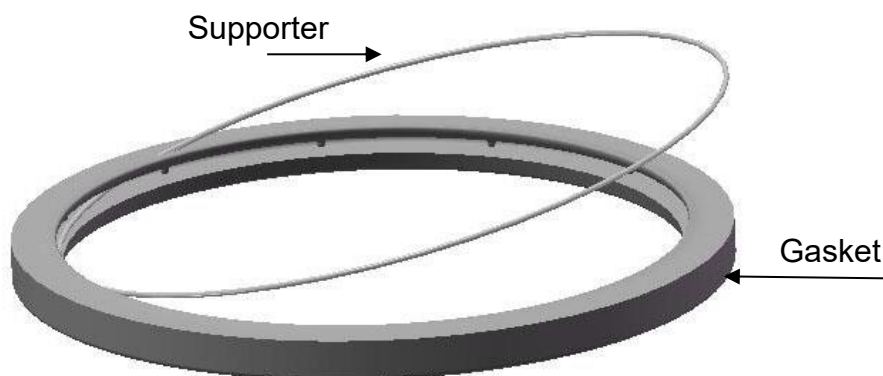

Figure 96
- A. Remove the old gasket from the door, and then take out the gasket o-ring from the gasket. Install the gasket o-ring to the new gasket as Figure 96.